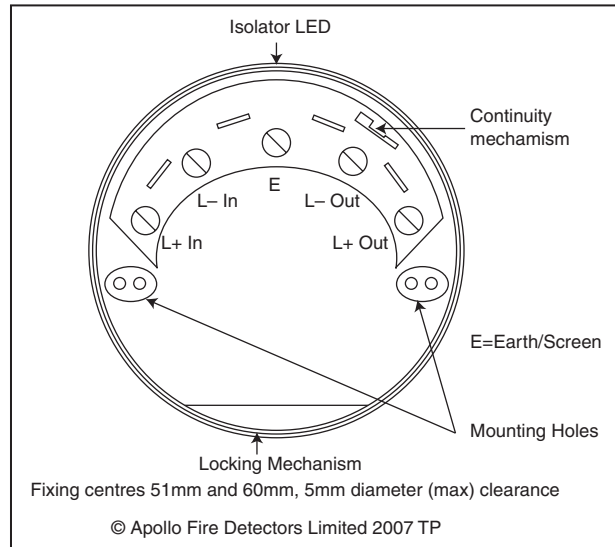

Fig 2 Base diagram
2. Secure the base to the mounting surface with pan-head screws, the weatherproof mounting pad must be used to maintain the IP rating; install all cables and terminate as shown in Fig 2.
5. To lock the sounder in the base, snip the break-out on the base rim (location shown in Fig 2.). Fit the sounder to the base.